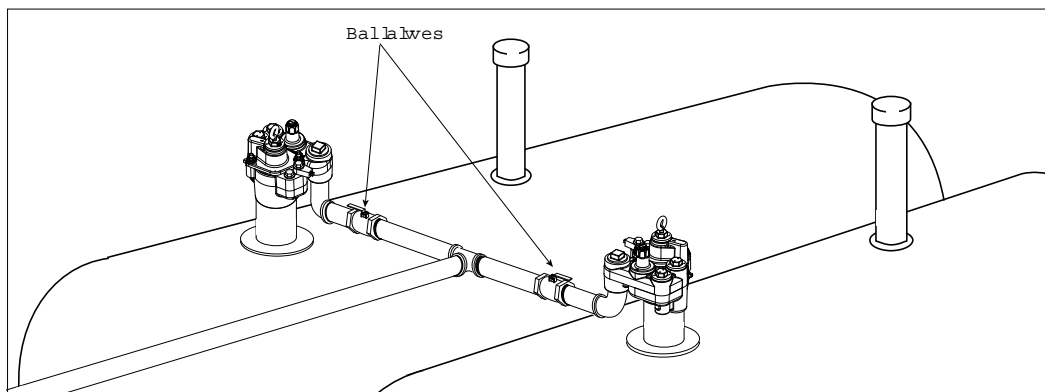

Figure 19. Tandem Pump Installation Example
When greater flow rates are needed, two pumps may be installed in the same piping system by means of a manifold. If installed according to the Figure 19, tandem systems offer backup support so operations can continue if one pump stops working.
**NOTICE** Ball valves should be installed at the pump end of the discharge line for ease of maintenance and troubleshooting (see Figure 19).